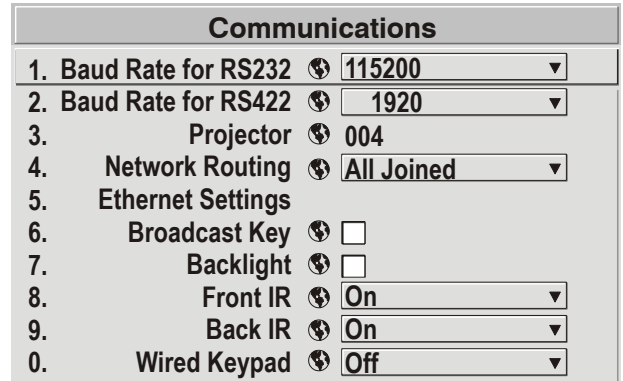

Figure 3.18. Communications
► Settings in the *Communications* submenu define and control how single or multiple projectors are linked with each other and with a controlling device. See Figure 3.18.
Enter a three-digit number (such as “001”) to assign or change a number to the projector currently in use. If the current projector already has a number assigned, that number will appear here (for example, “004” in Figure 3.18, above). Numerical identity for projectors enables you to communicate with a single projector within a multiple-projector application (see also key in 3.3 *Using the Keypads*). If you make a mistake in assigning or changing the projector number, press to cancel.